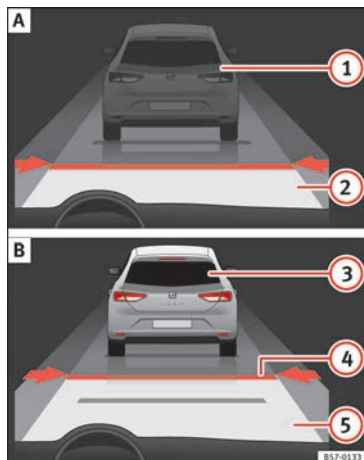
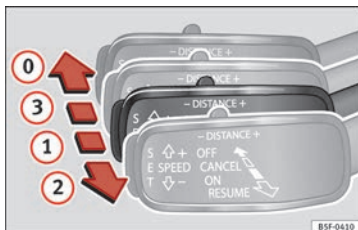
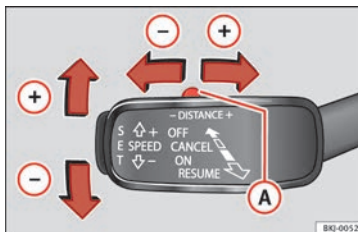

Fig. 209 On the instrument panel display: (A) ACC inactive (Standby). (B) ACC active.
Fig. 211 On the left of the steering column: third lever for operating the Adaptive Cruise Control.
Fig. 212 On the left of the steering column: third lever for operating the Adaptive Cruise Control.
Indications on the display » » » **Fig. 209:**
programmed speed and ACC status will be displayed **» Fig. 209**.
Once you are driving, if you wish to set the current speed as the vehicle's cruise speed and activate the ACC, press the **SET** button **» Fig. 212**. If you wish to increase or reduce speed by intervals of 1 km/h (0.6 mph), move the lever to position **2** **» Fig. 211** or press the **SET** button, respectively.
Any modification to the programmed speed will be shown on the bottom left part of the instrument panel display **» Fig. 209**.
To increase/reduce the distance level, press the rocker switch towards the left/right **» Fig. 212 A**.
- To activate the ACC, with the third lever in position **1** press the **SET** button or move the third lever of the ACC to position **2** **» Fig. 211**. At this point, the image of the ACC on the instrument panel display will switch to *Active* mode **» Fig. 209**.
To disconnect the ACC move the lever to the 0 position » Fig. 211 (engaged). An **ACC deactivated** message appears and the function is totally deactivated.
If you do not wish to disconnect the ACC, just to switch it temporarily to inactive mode (Standby), move the third lever to position 3 » Fig. 211 or press the brake pedal.